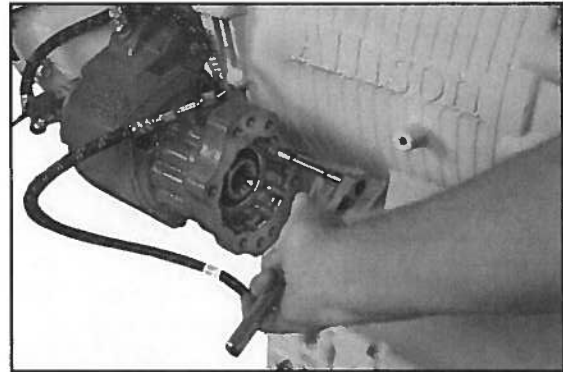

Fig. 19
11. After determining the position of the rotatable flange/pump, install the flange with the gasket and capscrews supplied with the PTO (Fig. 19).